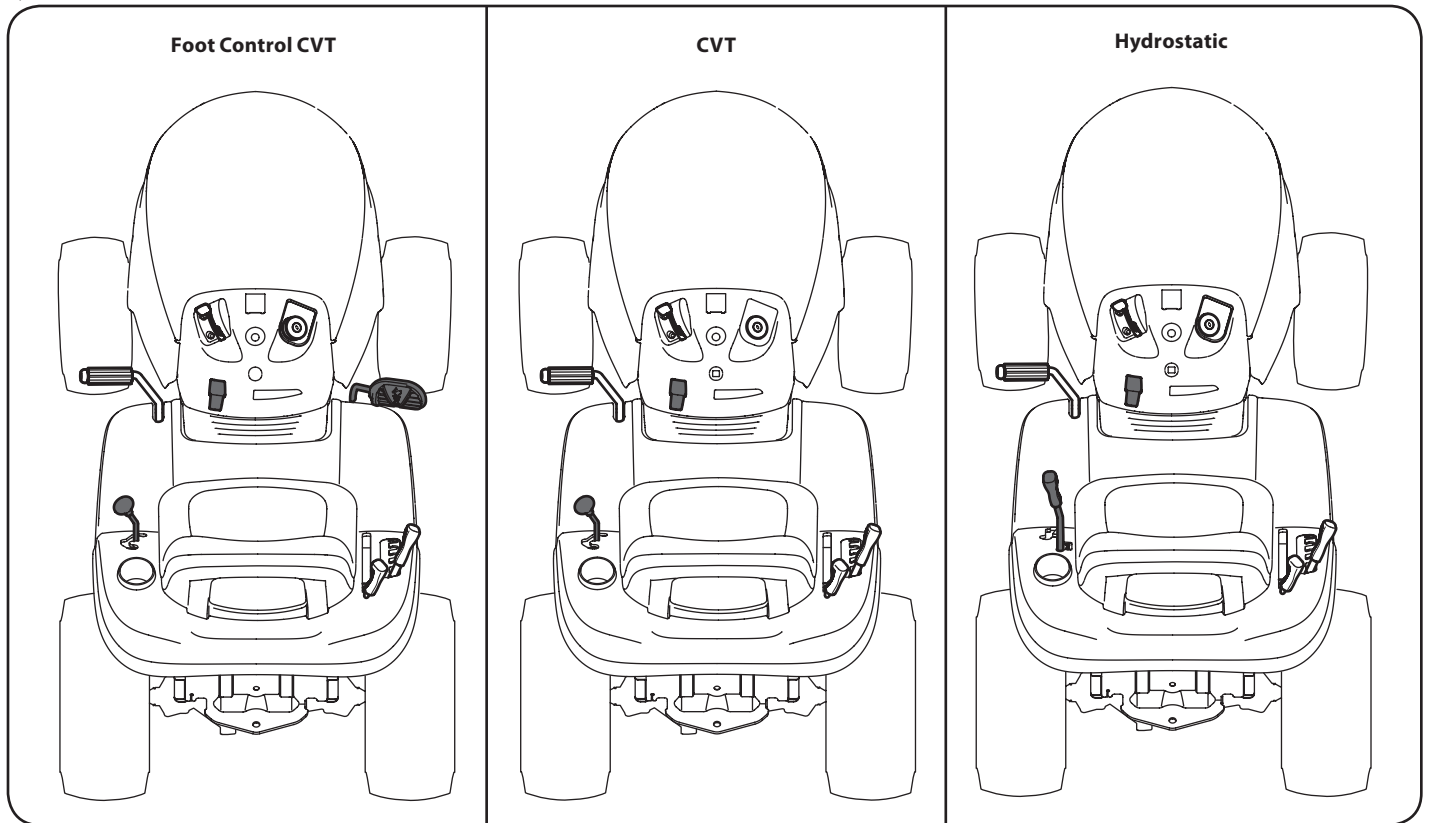

Figure 1
**NOTE:** This Operator's Manual covers several models. Features may vary by model. Not all features in this manual are applicable to all models and the model depicted may differ from yours. Refer to Figure 1 to match your transmission style; Foot Control CVT (Continuously Variable Transmission) or CVT (Continuously Variable Transmission).